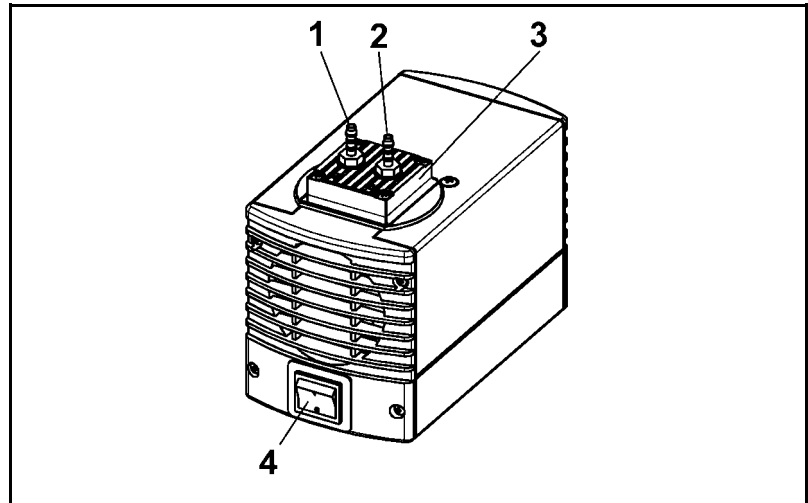

Fig. 2
- Switch on pump with mains switch (see fig. 2 and 3, depending on pump type)
- Switch off pump with mains switch (see fig. 2 and 3, depending on pump type).